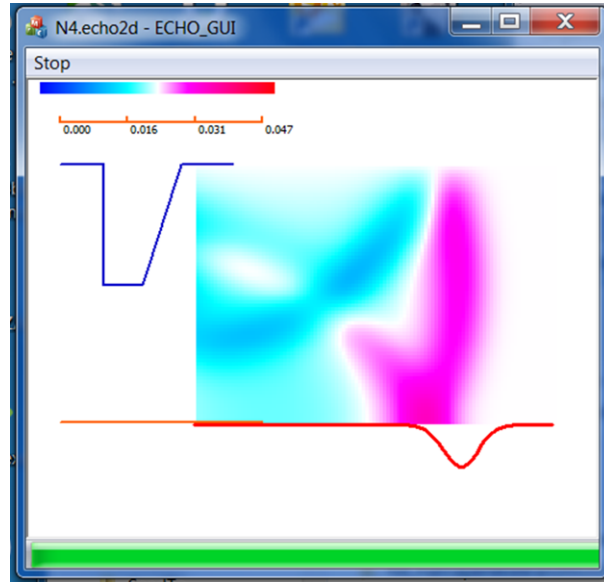

Figure 4.4: Geometry of flat absorber.
The absorber has geometry shown in Fig. 4.4 with $Width = 0.07$ defined in file **input_in.txt**. The bunch flies in ZY symmetry plane ($x_0 = x = 0$) and we calculate only odd modes $Modes = 1\ 3\ 5\ 7\ 9\ 11\ 13\ 15$. In order to calculate the longitudinal and quadrupole wakes we use $SymmetryCondition = magn$ and proceed as follows:
- Go to menu "File/Open" and navigate to directory **Examples/ N4_FlatAbsorberLongQuad/ ECHO2D**. Open the input file **N4.echo2d**. You should see the geometry shown in Fig. 4.4.
- Go to menu "File/Open" and navigate to directory **Examples/ N5_FlatAbsorberLongQuad/ ECHO2D**. Open the input file **N5.echo2d**. You should see the geometry shown in Fig. 4.4.